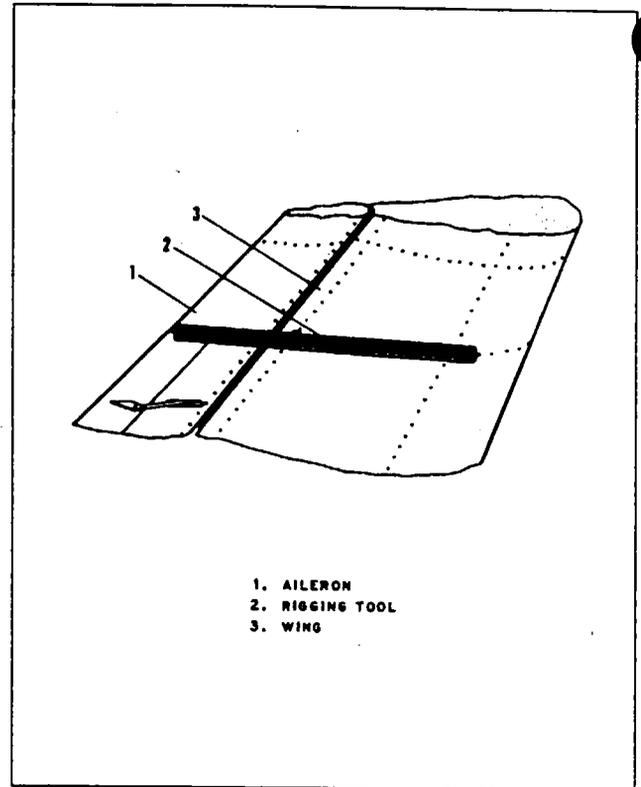

Figure 5-4. Installation of Aileron Rigging Tool
1. Place a modified straight edge, as shown in Figure 5-4 against the underside of the wing, next to and outboard of the row of rivets at station 189 with the aft end of the tool even with the trailing edge of the aileron. (This tool may be fabricated from dimensions given in Figure 5-18.) Do not place tool over rivets.
3. Should the three points not contact, loosen the jam nuts (52 and 58) of the control rod ends (51 and 57) and rotate the rod (25) until the three contact points touch the skin surfaces. Tighten the rod end lock nuts.
- c. With the bellcrank in neutral position, adjust cable tension as given in Table V-I to maintain neutral-center alignment of control wheels. Carefully remove the floor panel to the left of the control pedestal. Alternately adjust the primary and balance cable turnbuckles (2) at the bellcranks with the turnbuckles (17) within the fuselage at station 100. Cable tension should be taken at the non-ridged primary control cable. Safety turnbuckles.
- d. To adjust the interconnecting cables between the aileron and rudder cables, first ascertain that the cable tension has been set for both the aileron and rudder cables. Ascertain that the Aileron and rudder controls and surfaces are neutral, then remove the access panel at the aft section of the fuselage and adjust the interconnecting cable turnbuckles (26) at station 285 so that the springs (28) will extend .060 of an inch.
- e. Place a bubble protractor on the inboard section of the aileron and establish neutral or zero on the protractor. Remove the tools holding the aileron bellcranks in neutral, replace the nuts and safety them. Adjust the bellcrank stop bolts (59) to the specific aileron travel from neutral as given in Table V-I. Stops of both bellcranks should contact their stop blocks at the same time and before the control wheel contacts its stops.